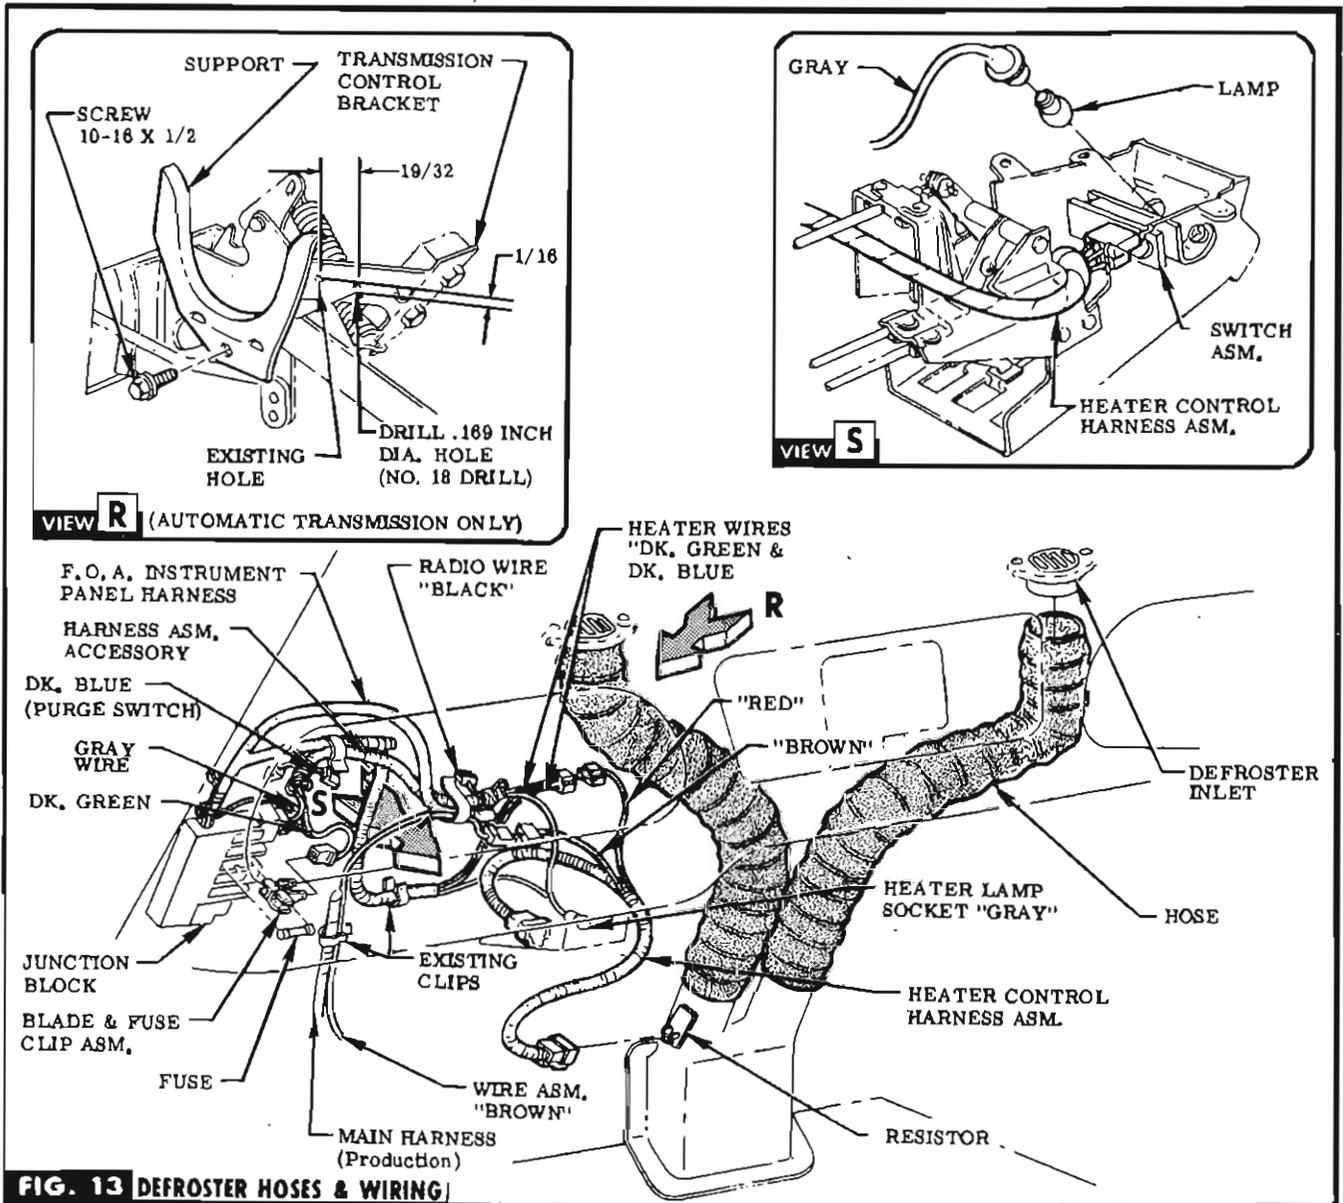

FIG. 13 DEFROSTER HOSES & WIRING
STEP 63 REMOVE INSTRUMENT PANEL COMPARTMENT. INSTALL DEFROSTER HOSES ON INLETS & DISTRIBUTOR ASM. SEE FIG. 13. REPLACE INSTRUMENT PANEL COMPARTMENT. **NOTE** If automatic transmission exists route L, H. hoses over hose support.
STEP 65 INSTALL BLADE & FUSE CLIP INTO RECEPTACLE MARKED "HEATER - B.U. LPS." ON JUNCTION BLOCK. SEE FIG. 13.
STEP 66 UNTAPE DK. GREEN WIRE CONNECTOR FROM ACCESSORY OR F.O. A. HARNESS & PLUG INTO FUSE CLIP PREVIOUSLY INSTALLED. SEE FIG. 13.
STEP 67 IF ACCESSORY HARNESS HAS BEEN INSTALLED UNTAPE & PLUG GRAY LEAD CONNECTOR INTO BACK OF JUNCTION BLOCK INTO RECEPTACLE MARKED "PANEL LPS." SEE FIG. 13. **NOTE** If radio exists, wire will always be connected.
STEP 68 PLUG ONE END OF HEATER HARNESS INTO RESISTOR ON DISTRIBUTOR & OTHER END INTO SWITCH ON CONTROL. UNTAPE GRAY LEAD. INSERT LAMP (IN BAG A) INTO SOCKET & PLUG INTO CONTROL. SEE FIG. 13 & VIEW S.
STEP 69 CONNECT RED LEAD FROM HEATER HARNESS WITH DK. BLUE & GREEN WIRE CONNECTOR (FROM F.O. A. OR ACCESSORY HARNESS). ROUTE BROWN LEAD (FROM GROMMET IN TOE PANEL) ALONG EXISTING HARNESS & CONNECT TO BROWN LEAD OF HEATER HARNESS. SEE FIG. 13.
STEP 70 INSERT FUSE INTO FUSE CLIP ASM. PREVIOUSLY INSTALLED. SEE FIG. 13.